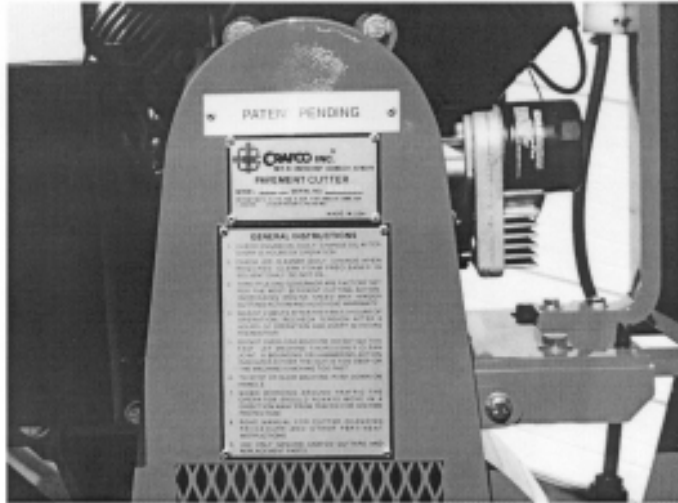

FIGURE 2
1. Raise cutter mechanism to maximum height. Push machine forward while holding handle up. This will allow rock deflector to fold up and machine to tilt forward exposing cutters for easy accessibility. Make sure front stand is supporting machine before releasing handle. (Figure 2)
1. Remove belt guard. (See Figure 2)
1. Remove belt guard by removing 4 bolts. (See Figure 2).